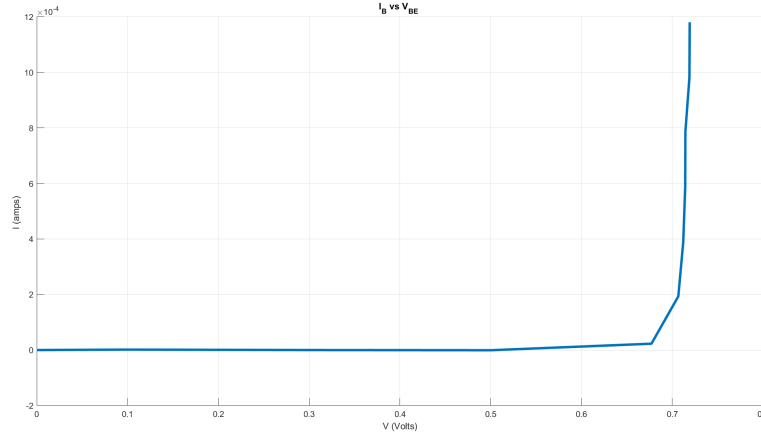

Figure 3: Plot obtained for the step 2
- iii. By using a multimeter as an ammeter(HP34401A), click on the run button. Then, by selecting X-Y chart I_B vs. V_{BE} plot is obtained as in Figure 3.
Afterward, the designed circuit is tested in this environment, and as seen in Figure 3, the plot is like the i-v characteristics of a diode with an opening voltage is around 600mV since V_{BE} is a PN junction. If it is commented on it, it can be said that after V_{BE} is passed, 600mV current starts to flow, so V_{BE} can be called opening voltage.